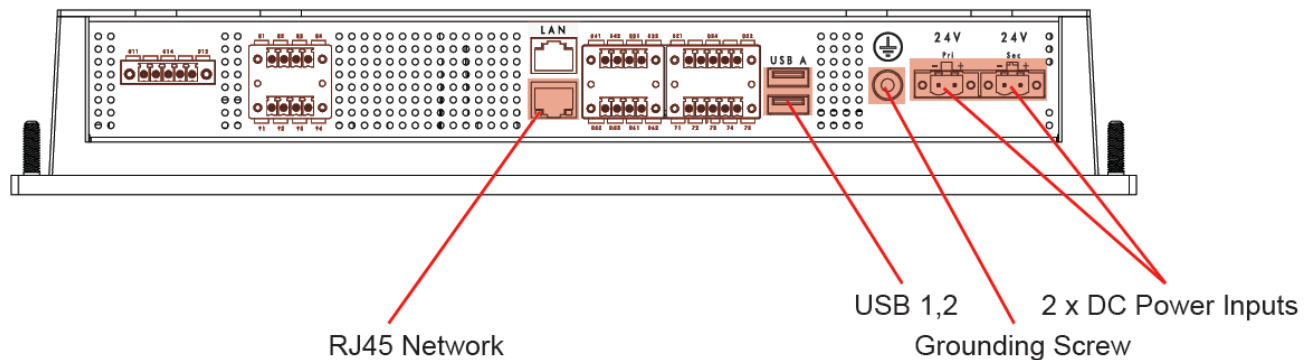

Figure 4 – TSM1330C Bottom Panel
The bottom panel of the TSM1330C is shown in Figure 4.
Step 1: Locate the USB connectors. The locations of the USB connectors are shown in Figure 4.